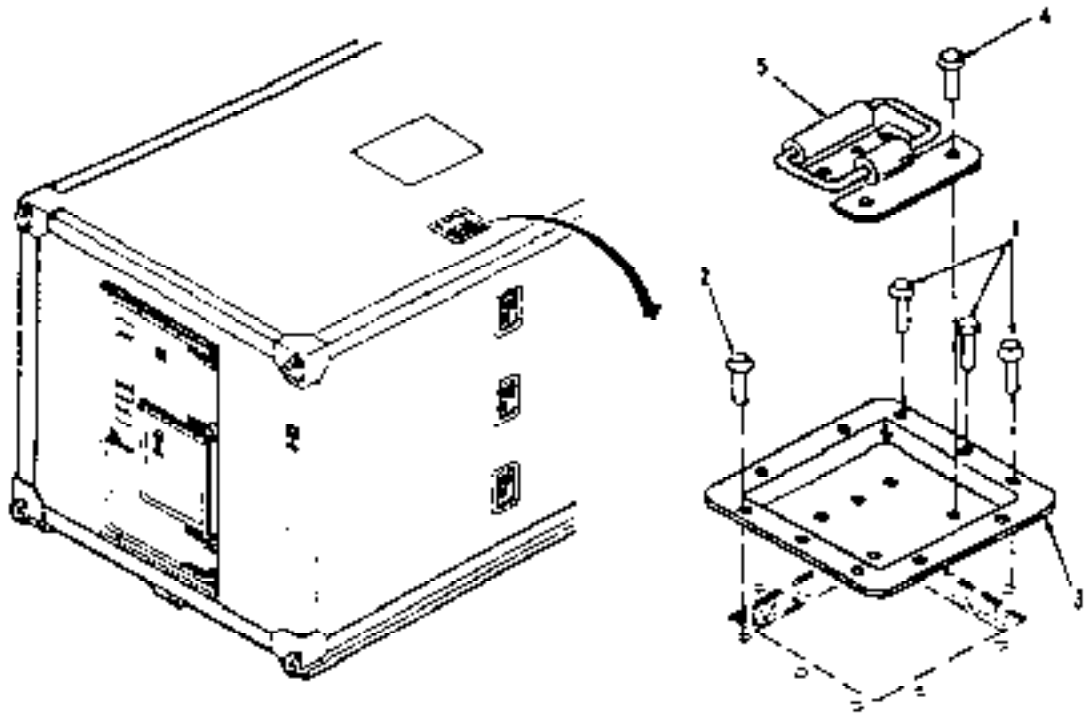

Figure 3-12. Hand Hold Replacement.
a. Inspect. (Figure 3-12)
- (1) Inspect for damaged or non-functioning bail handle (5).
- (2) Inspector missing blind rivets (1, 2, and 4).
■ If only bail handle (5) is damaged, perform steps (2) and (3) below.